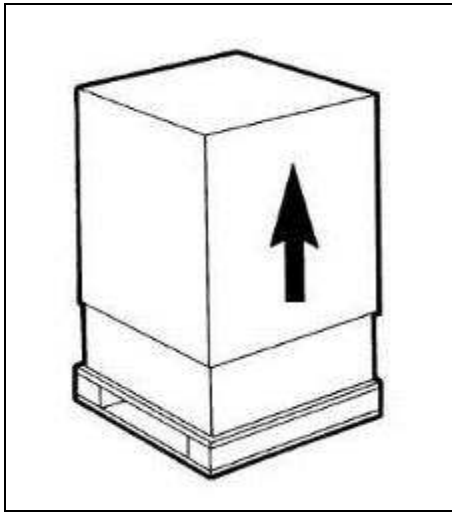

Fig. 26
a) After removing the packaging, **preserve all parts of it for winter storage** and ensure the integrity of the appliance (fig. 26).